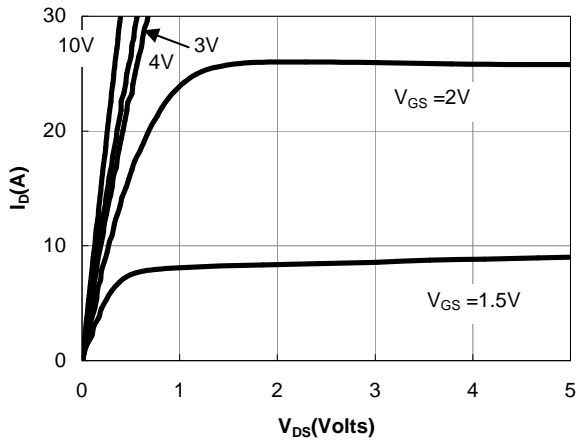

Figure 1: On-Regions Characteristics
D. The static characteristics in Figures 1 to 6,12,14 are obtained using $<300\mu\text{s}$ pulses, duty cycle 0.5% max.